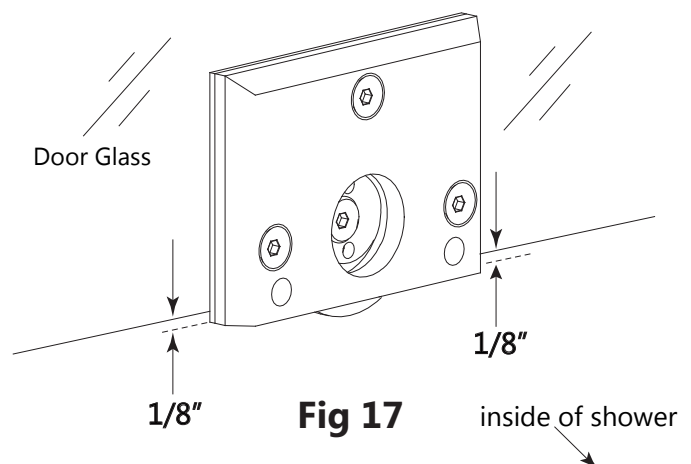

Fig 17
14. Remove the **M5 x 16 Allen Bolts (#10.9)** and the **Cover Plate (#10.7)**. Remove the three **M5 x 14 Allen Bolts (#10.6)** and attach the **Roller Assemblies (#10)** to the **Door Glass (#02)**. Make certain that the bolts are facing the inside of the shower and that the roller assemblies are installed squarely onto the glass. (**Fig 17**)